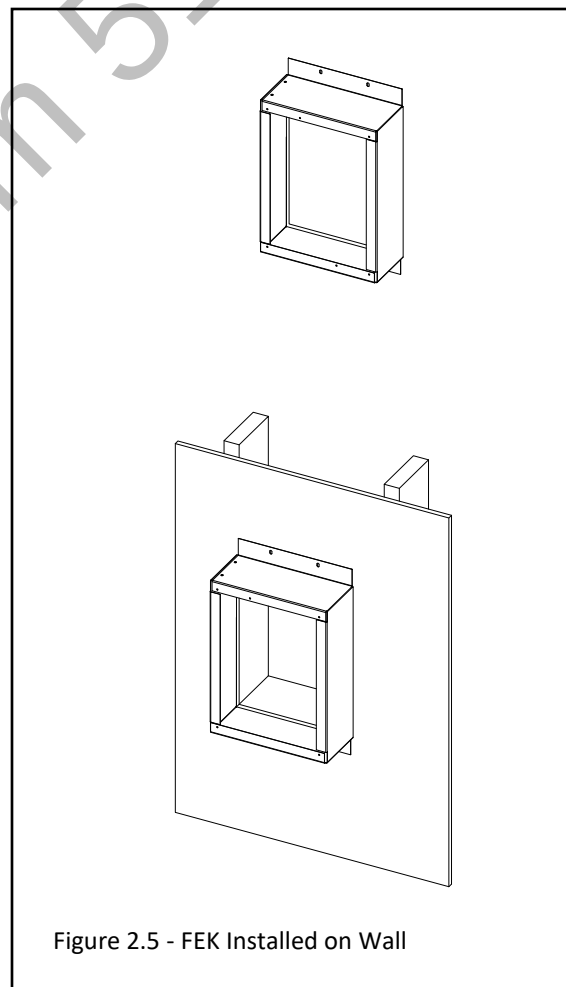

Figure 2.5 - FEK Installed on Wall
2. Place FEK box over the framed opening in the wall. Ensure the FEK is level to ensure precipitation does not build up in the HTK-EXT termination cap when it is installed. Attach it to the building. Verify the box remains square so the HTK-EXT can be installed correctly. See FIGURE 2.5.